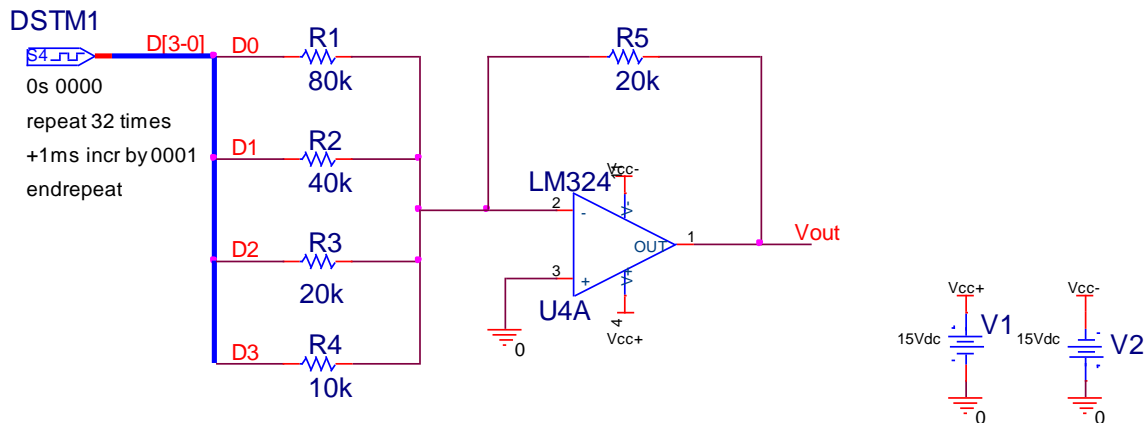

Figure 1. Discrete DAC Schematic
- a. Display all DSTM1 commands, as in Figure 1.